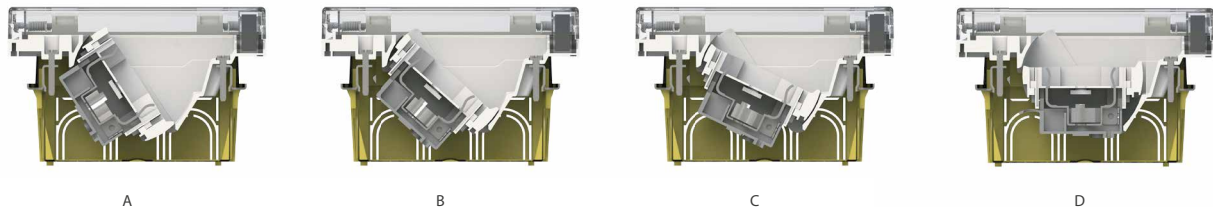

fig. 4
- Move the tilting support to ensure its complete movement (fig. 4-A,B,C,D).